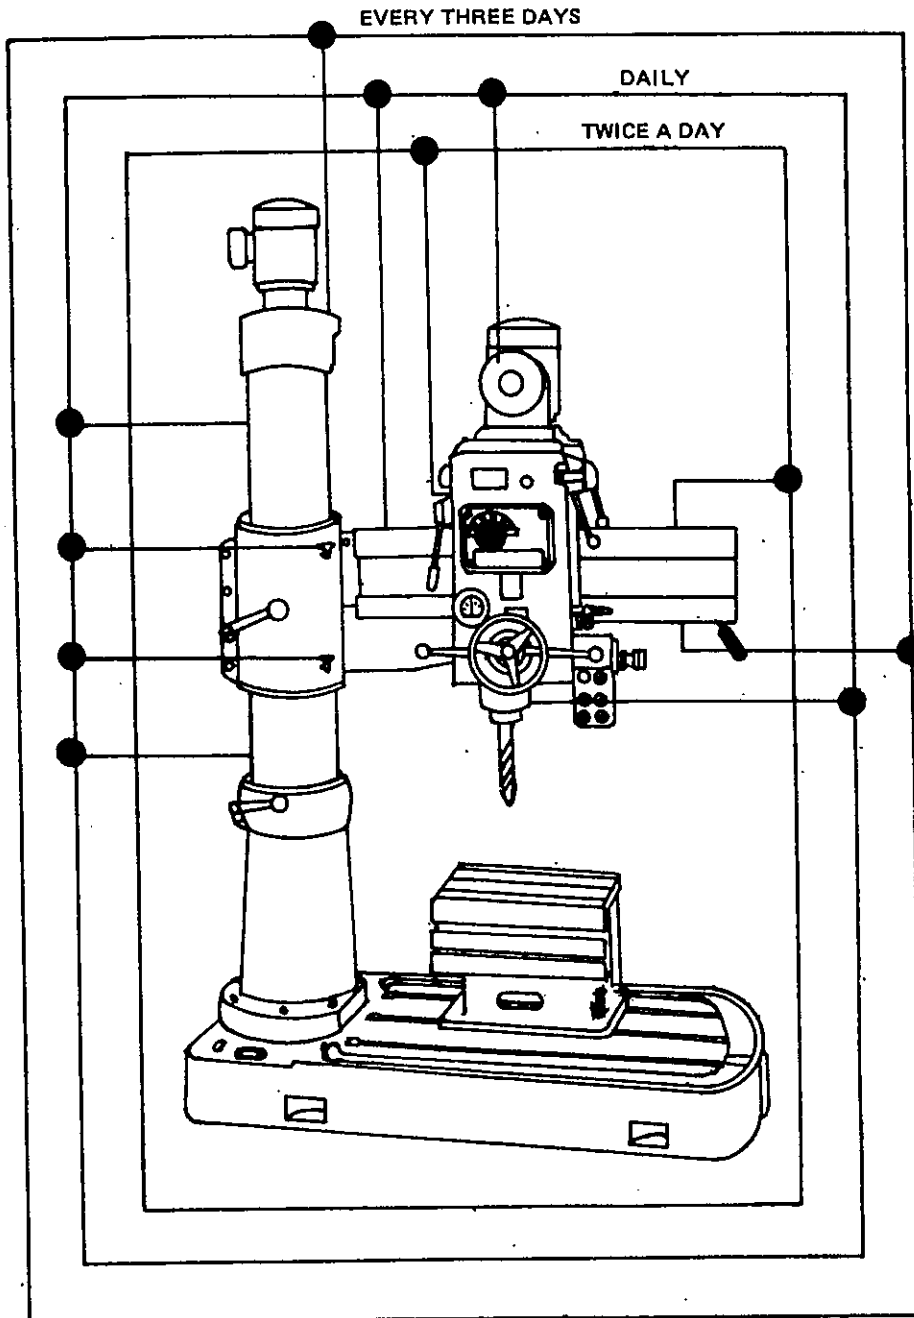

FIG. 5
(2) LUBRICATION
a) Pour recommended lubrication oil or same grade oil into upper gear casing to the height of center of oil sight glass (in oil hole of casing top) and Fig. 5 shows hand lubrication points.
(3) INSPECTION